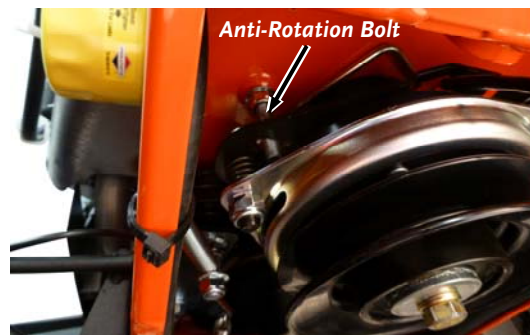

Figure 31
- The clutch is located properly on the Anti-Rotation Bolt (**Figure 31**).